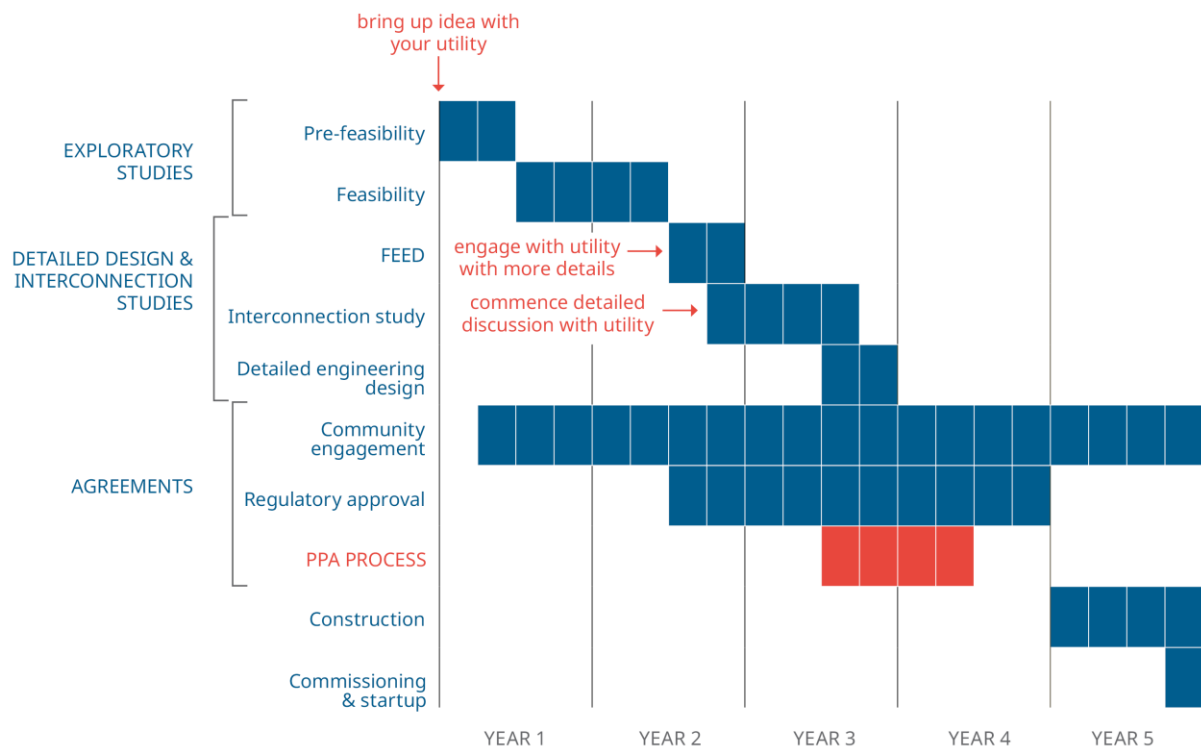

Figure 2. Timeline for project development process
- Figure 2. Timeline for project development process 4
Figure 2 shows a sample timeline for a five-year project development cycle and where the PPA process fits in. This cycle could potentially be shorter (<3 years) or longer (>5 years). Project timelines vary depending on many factors, including community support for the project, the size of the project, regulatory requirements, the level of familiarity of both the IPP and utility with the project development process, and the level of support and collaboration provided by the utility.
Engaging with the utility occurs not just during the formal PPA process but during other phases as well, as shown in Figure 2 and discussed in the section “Working with the utility.” Engaging with the utility early is especially important in cases where the outcomes of the PPA process are key to securing financing. In these cases, some elements of the PPA process will occur earlier in project development to ensure alignment between the proponent and the utility.